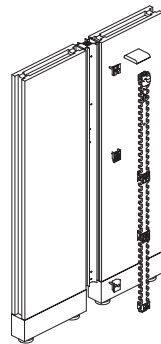

Fig 4
2.2. For all posts 42" high and up, the installation of shoulder screw (C) is required to secure the top end of the carrier. Measuring down 1-5/8" and centered vertically from the top of the post extrusion, drill a $\phi 5/32$ " hole and install the shoulder screw. (Fig 4)